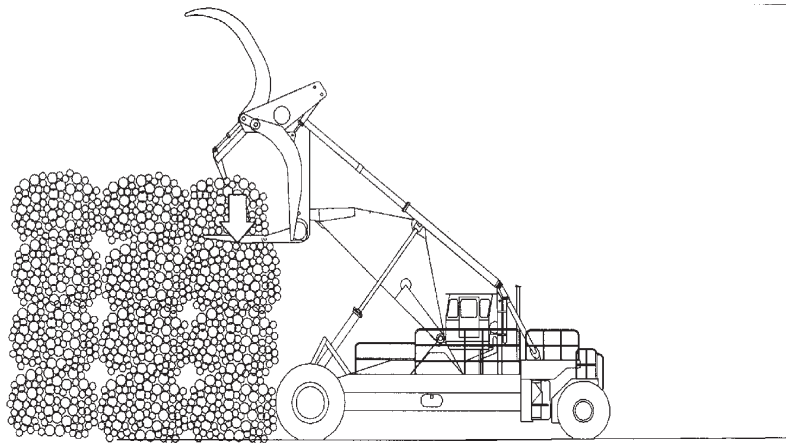

Figure 5-22
3. Always stack bundles in vertical piles- not interlocking. This will make retrieval much easier. Also, when stacking one bundle on top of another, press down on the lower bundle with the carriage. This will flatten the lower bundle and make the deck much more stable and retrieval easier (See Figure 5-22).